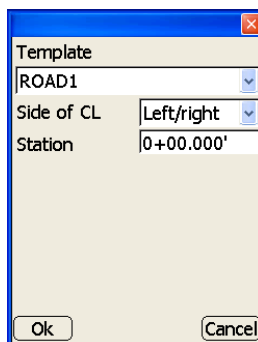

Figure 3-42. Add Template Applications Dialog Box
- **Add** – on the *Template applications* dialog box, press **Add** to enter a template application and its respective information, then press **Ok** to save the information (Figure 3-42).